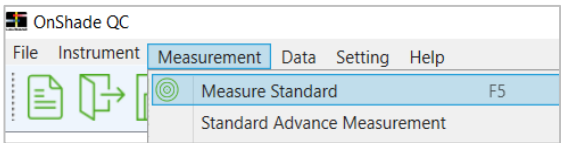

Figure 19: Measure Standard menu
2. From the menu select “Measurement”>“Measure Standard” (Figure 19) or click the Standard Measure icon  from the toolbar or use the shortcut key F5.